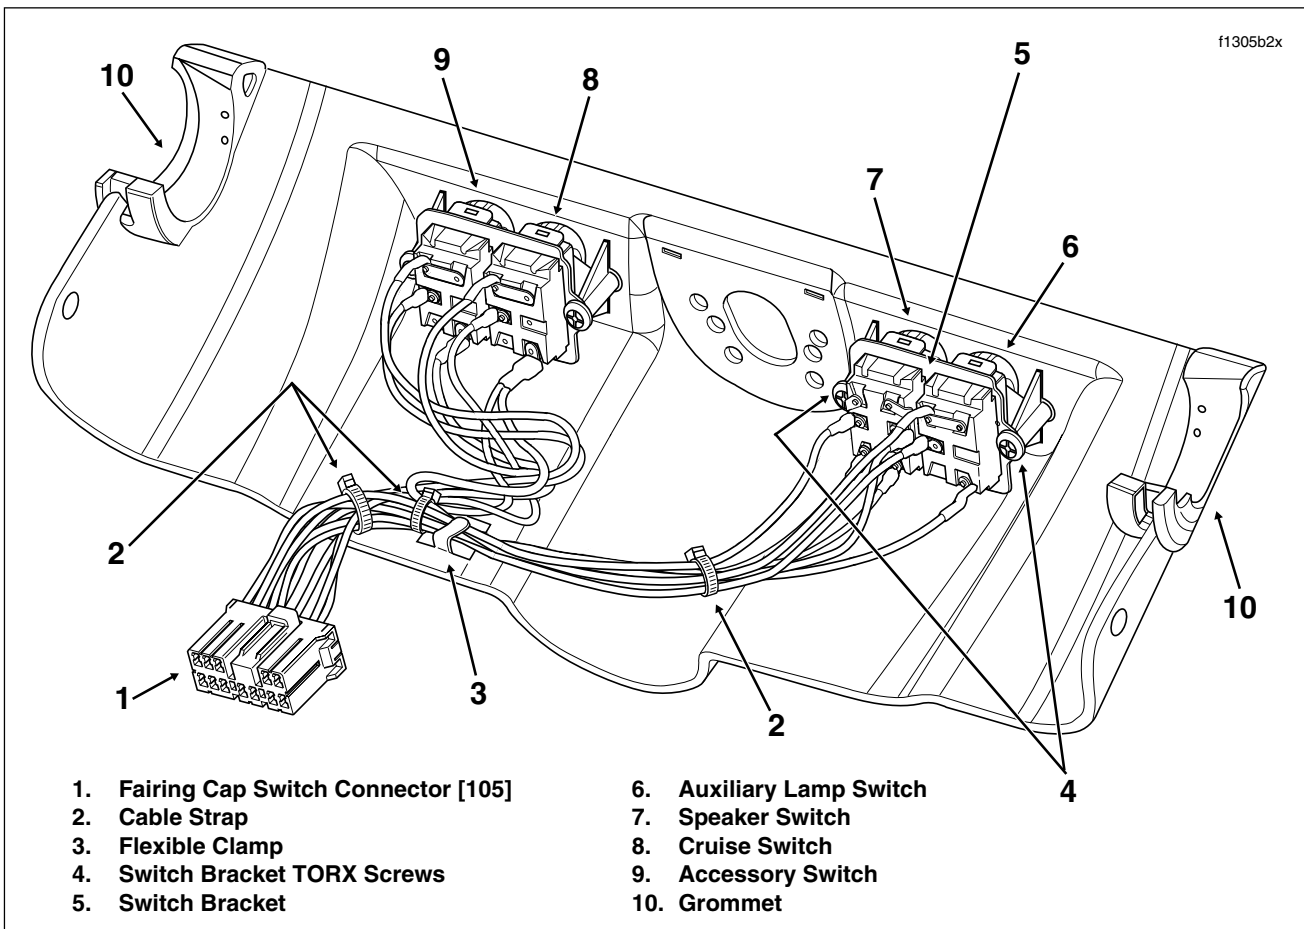

Figure 8-80. Fairing Cap (Inboard Side) - Ultra Model Shown
4. Remove the fairing cap from the motorcycle. See Figure 8-80.
- Install **new** cable straps to capture wire bundles and then secure switch wires to the fairing cap using the flexible clamp. Route the wires as shown in Figure 8-80.